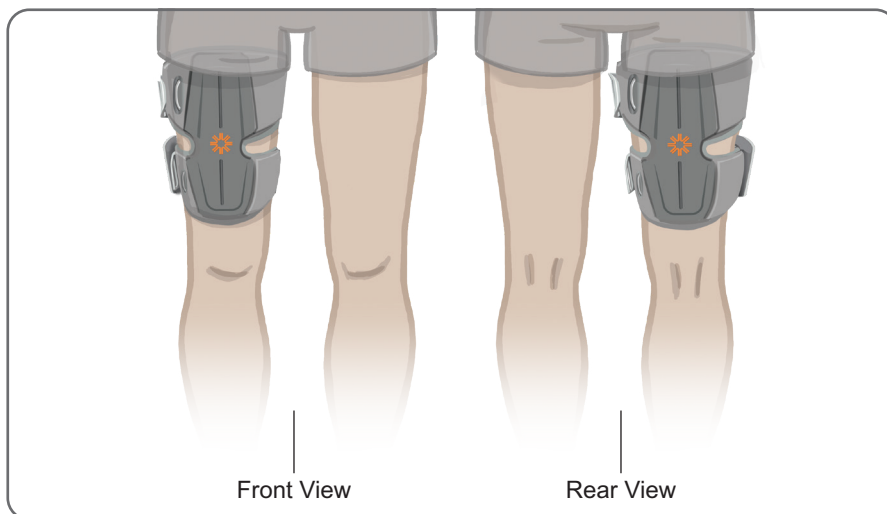

Figure 6-6: Correct Position of the Thigh Cuff
4. Center the bridge on the midline of the thigh. See Figure 6-6.
5. Fasten the straps by inserting the strap buckle into the hook attached to the Thigh Cuff panels. See Figure 6-6. If needed, tighten the strap tension by adjusting the strap fasteners.